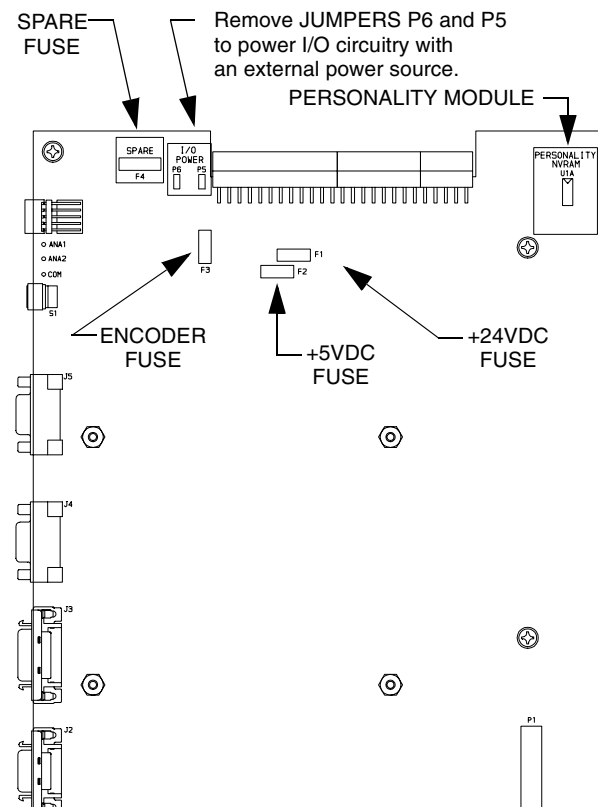

FIGURE 11.1
The +24VDC, +5VDC and Motor Encoder power lines are fused for protection. All fuses are 1A fast acting fuses. Refer to “” on page -173 for the part number and Figure 11.1 for fuse locations. A spare fuse, F4, is included on the circuit board for convenience.
4. Refer to Figure 11.1 for the location of the personality module.